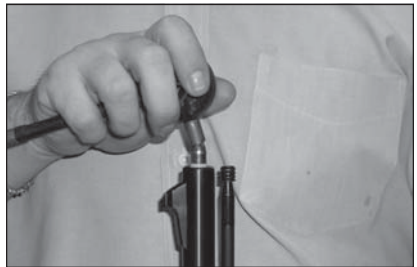

Figure 4
- c. Use short end of a bullet starter to press bullet just into muzzle. (See Figure 4).